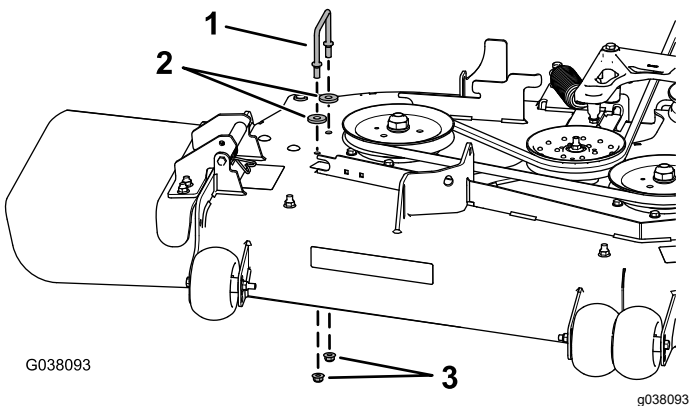

Figure 16
3. Remove the right belt-cover bracket, 2 washers (60-inch mower deck only), and 2 flange nuts from the mower deck (Figure 16).